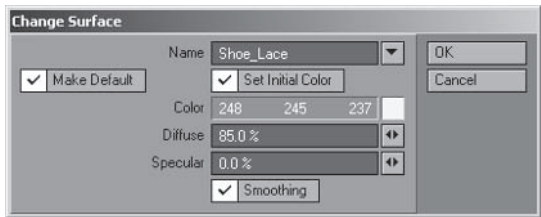

Figure 5.5-15. Shoelace surface settings.
23. Select both laces and **Change Surface** to **Shoe_Lace** using the settings in Figure 5.5-15.